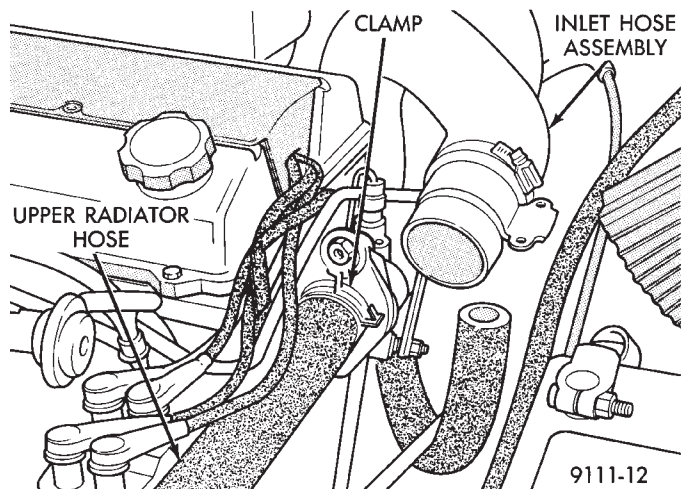

Fig. 2 Radiator to Cylinder Head Hose
- (4) Remove radiator hose to cylinder head (Fig. 2).